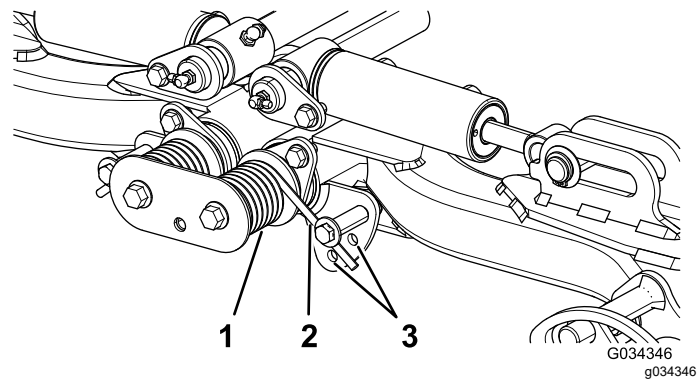

Figure 38
2. Insert a tube or similar object onto the long spring end to relieve the spring tension during the adjustment (Figure 38).
3. While relieving the spring tension, remove the bolt and locknut securing the spring actuator to the bracket (Figure 38).